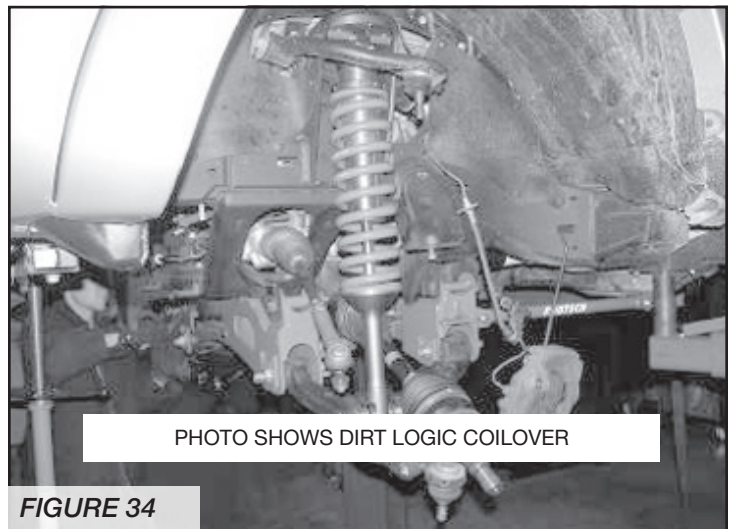

FIGURE 34
26. Locate and install FTS820152D or FT825152 Dirt Logic Coilover as described in the instructions enclosed with the coilovers. **SEE FIGURE 34**